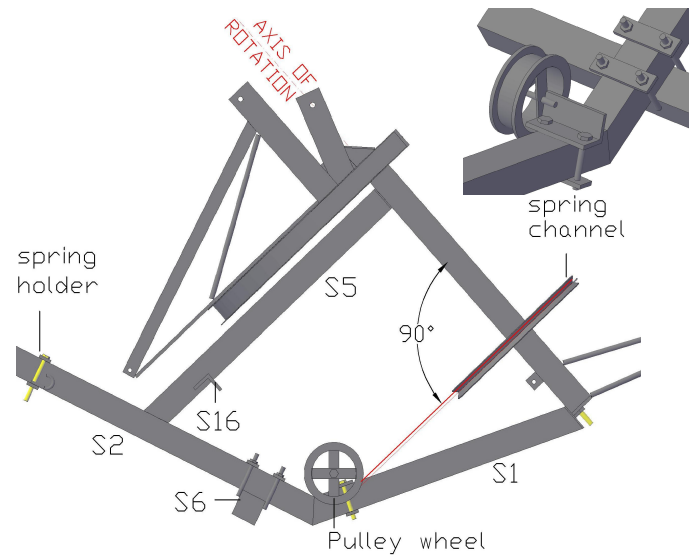

Fig. 25: Pulley wheel fixation
**Step 2** Mount Rotating Support on stand (Use M10 bolt). Weld pulley wheel to S17 and clamp it with S20 to S2 so that the cable comes perpendicular to the axis of rotation (parallel to S5) See Fig.25.